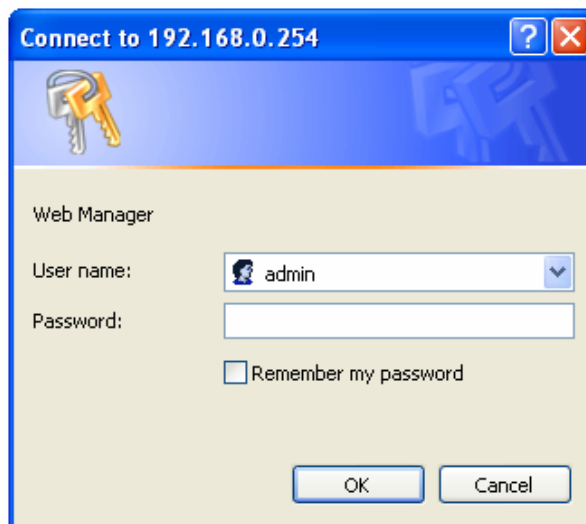

Figure 16: Login Dialog Box
1.	Type the default IP 192.168.0.254 address (if connecting with the default IP) at web browser to launch the login dialog box. See Figure 16.
2.	Enter default user name “admin” as shown in Figure 16.